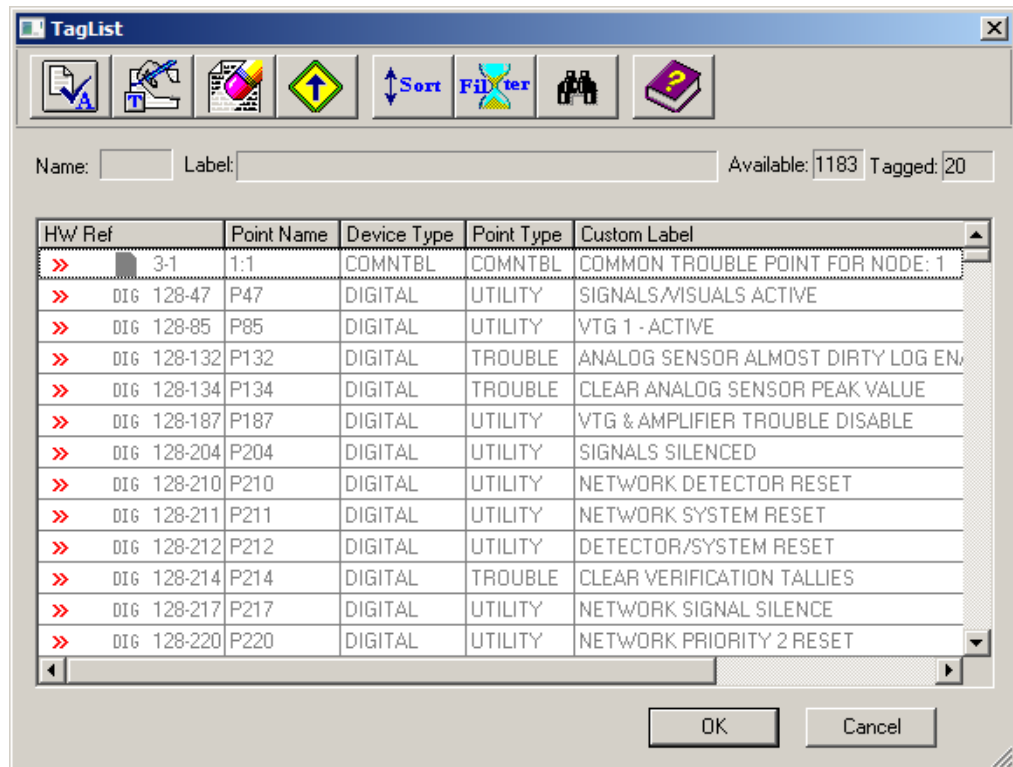

Figure 15-2. Public Points Tag List.
1. Right click on the Public Points folder and select the **Edit Public** choice. The tag list is shown in Figure 15-2.